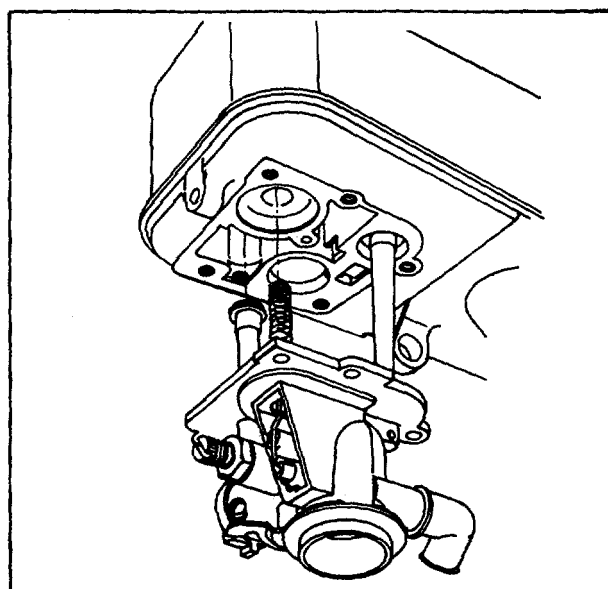

Fig. 14 - Assembling Tank to Carburetor
Lower tank down onto carburetor, while guiding choke spring into spring well, Fig. 14. Holding carburetor and body together, turn assembly right side up. Thread carburetor mounting screws into tank top about two (2) turns. DO NOT TIGHTEN.